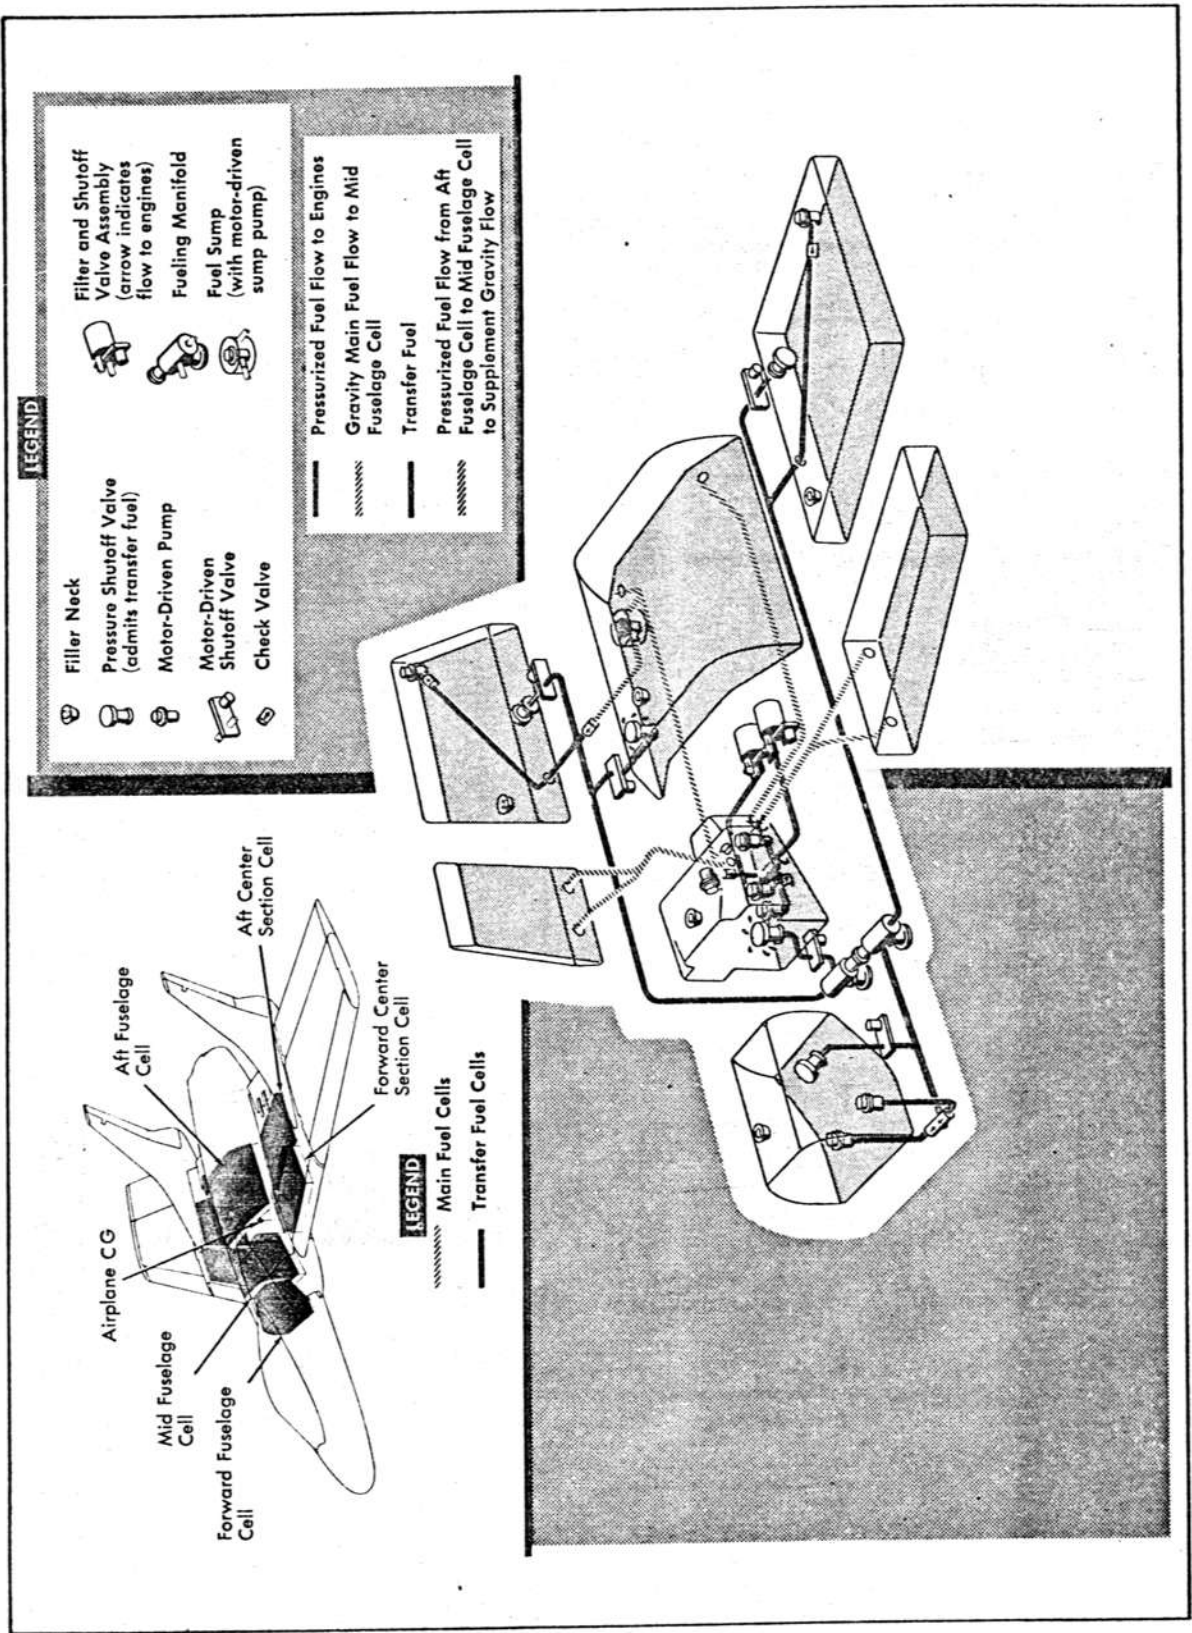

Figure 1-7. Fuel System Flow Schematic
**GENERAL.** (See figure 1-7.) Fuel for the airplane is stored in seven internal self-sealing cells. (Refer to figure 1-40 for the fuel grade and specification and to the table below for fuel quantity data.) The cells are serviced at two pressure fueling adapters on the underside of the fuselage. If pressure fueling facilities are not available, the cells can be filled individually at filler necks.
**MAIN FUEL SYSTEM.** (See figures 1-7 and 1-8.) The mid fuselage cell is the engine feed cell; fuel flows by gravity from the other three main system cells (aft fuselage, LH forward center section, and RH forward center section) to this cell. The fuel is pumped from the mid fuselage cell into a manifold at a pressure between 10 and 30 psi. From the manifold, fuel flow is directed into two lines: one for each engine. (This arrangement permits either engine to be supplied by any or all of the fuel boost pumps.) An electrically operated shutoff valve is located in each fuel line. The shutoff valves are opened when the MASTER ENGINE SWITCHES are "ON."
**TRANSFER SYSTEM.** (See figures 1-7 and 1-8.) The three transfer cells are the forward fuselage cell, the left-hand aft center section cell, and the right-hand aft center section cell. An automatic pumping cycle pumps fuel from the transfer cells through a fuel transfer manifold into the main system. The automatic pumping cycle operates as follows: